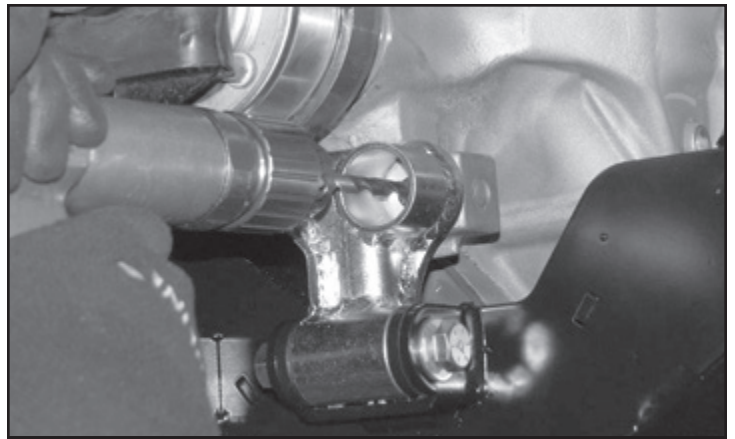

FIGURE 36 - STEP 32
32. Use the rear bracket as a drill guide to drill a $\frac{1}{2}$ " hole through the block on the rear of the diff. **SEE FIGURE 36**